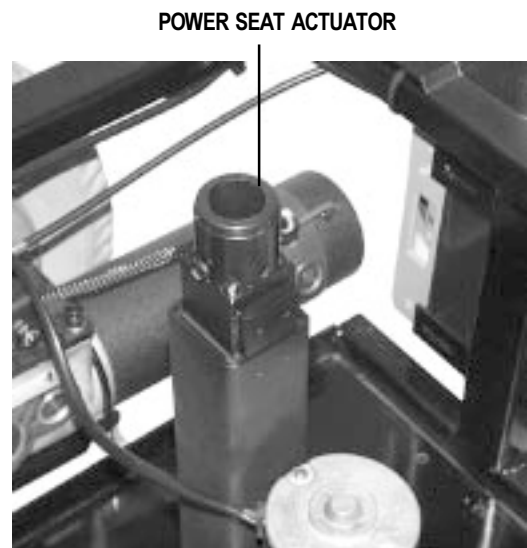

Figure 13. Power Seat Actuator
1. Align the seat shaft to the hole in the actuator. See figure 13.